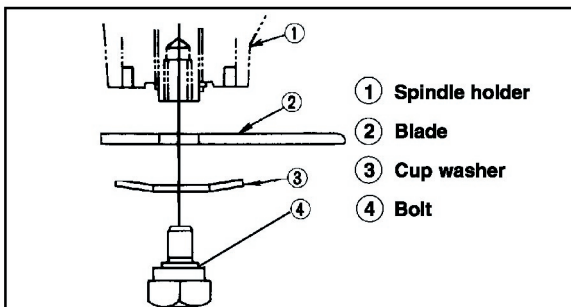
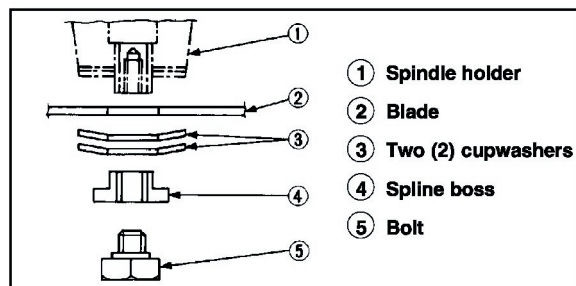

Figure 3
Figure 4
7. Using the blade mounting hardware removed in Step 2, install the new mulching blades ordered separately, referring to Figure 3 or Figure 4 depending on the mower deck model. Torque the blade bolt as recommended in the operators' manual for the tractor.
286307700_Fig4